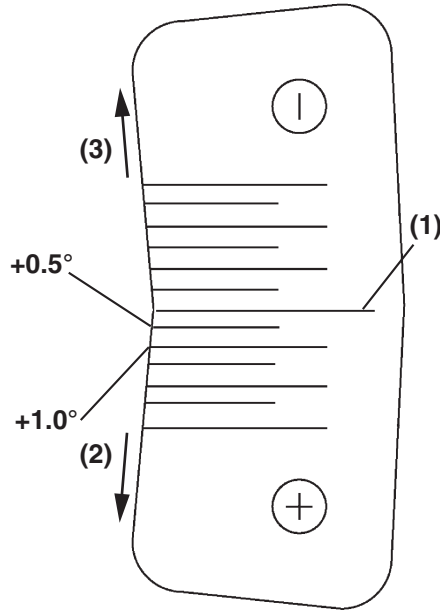

Figure 7-26
- If the difference between the timing index numbers is a positive number, the fuel injection pump mounting position must be advanced (**Figure 7-26, (2)**) (rotated away from the engine) as compared to the “standard mark” (**Figure 7-26, (1)**) by the calculated positive amount, adjust the fuel injection pump to the calculated value.
- If the difference between the timing index numbers is a negative number, the replacement injection pump must be retarded (**Figure 7-26, (3)**) (rotated toward the engine) by the calculated negative amount.
The above calculated difference indicates that the replacement fuel injection pump is to be installed at +0.5° (advanced) from the “Standard Mark” (**Figure 7-26, (1)**) on the timing sticker.